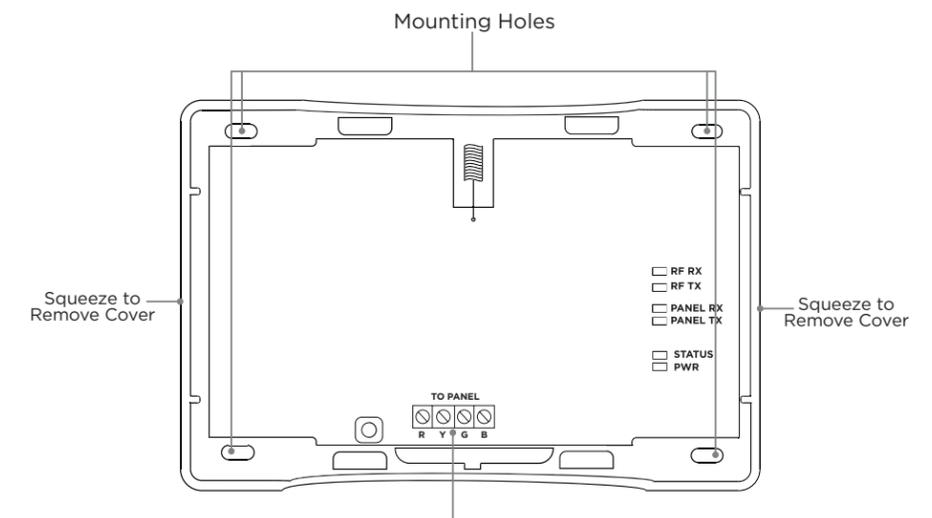

Figure 2: 1100D Series Mounting Holes
2. Secure the receiver to the wall in the desired location installing the supplied screws in the mounting hole locations as shown in Figure 2.
2. Secure the receiver to the wall ensuring that the wall tamper switch makes proper contact with the wall. Use the supplied screws in the mounting hole locations as shown in Figure 2.